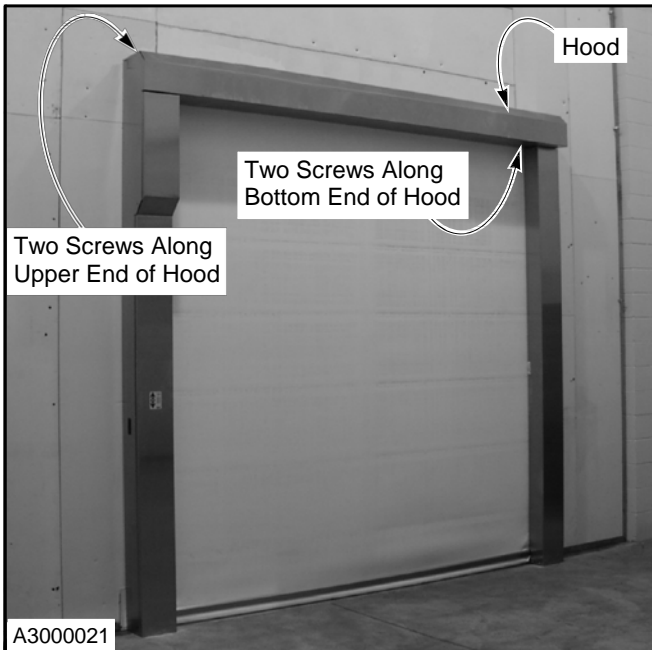

Figure 38
3. Attach the hood to the head assembly and side columns. At each end of the hood, there are two screws along the top and bottom sides of the hood. The hardware is located in the small parts carton. (See Figure 38.)